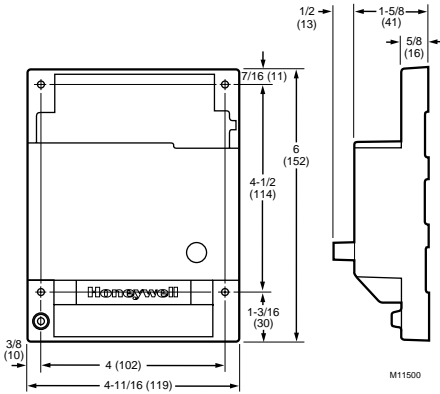

Fig. 1. L7148F dimensions in in. (mm).
**Case Dimensions:** See Fig. 1.